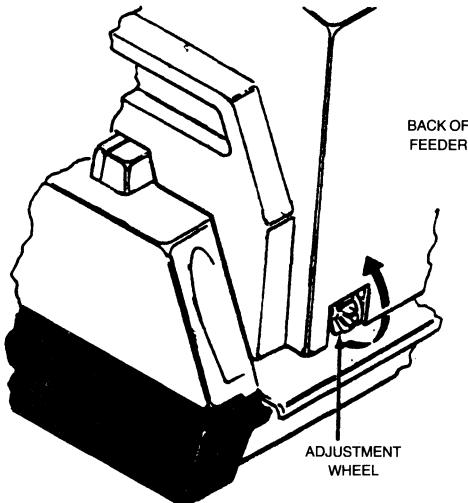

Figure C-9 Horizontal Adjustment Wheel.
1. Turn the adjustment wheel UP (see Figure C-9) to move the feeder closer to the LEFT (form lever) side of the printer. Turn the wheel DOWN to move the printer toward the RIGHT (control panel) side of the printer.*